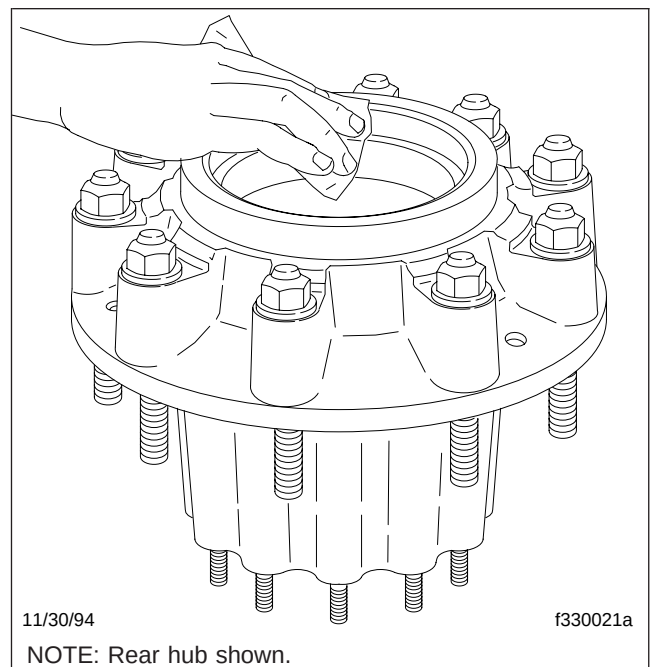

Fig. 2, Cleaning the Hub
3. Clean the spindle, spindle threads, seal bore, and the hub cavity. See Fig. 2 and Fig. 3.